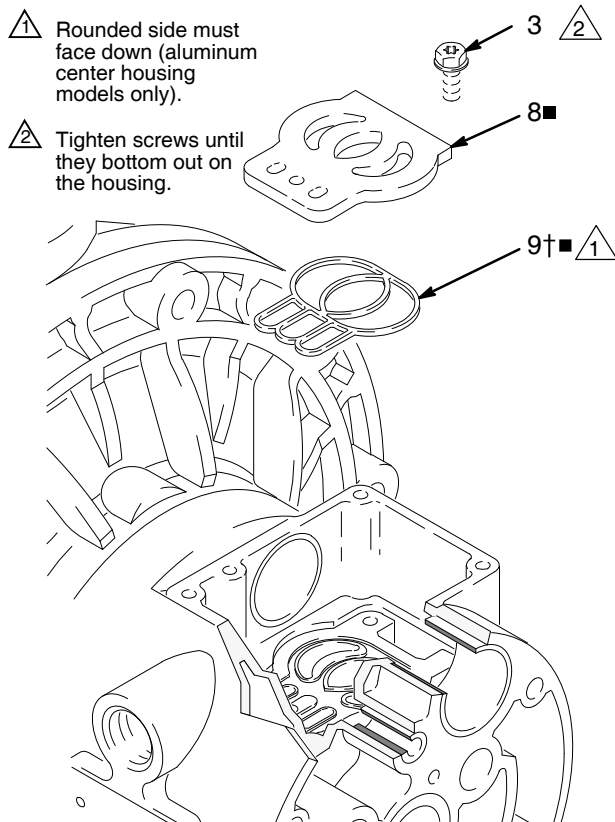

FIG. 9
5. Inspect the valve plate (8■) in place. If damaged, use a Torx (T20) screwdriver or 7 mm (9/32 in.) socket wrench to remove the three screws (3). Remove the valve plate (8■) and, on aluminum center housing models only, remove the seal (9). See FIG. 9.
2. On aluminum center housing models, install the valve plate seal (9†■) into the groove at the bottom of the valve cavity. The rounded side of the seal **must face down** into the groove. See FIG. 9.
3. Install the valve plate (8■) in the cavity. On aluminum center housing models, the plate is reversible, so either side can face up. Install the three screws (3), using a Torx (T20) screwdriver or 7 mm (9/32 in.) socket wrench. Tighten until the screws bottom out on the housing. See FIG. 9.